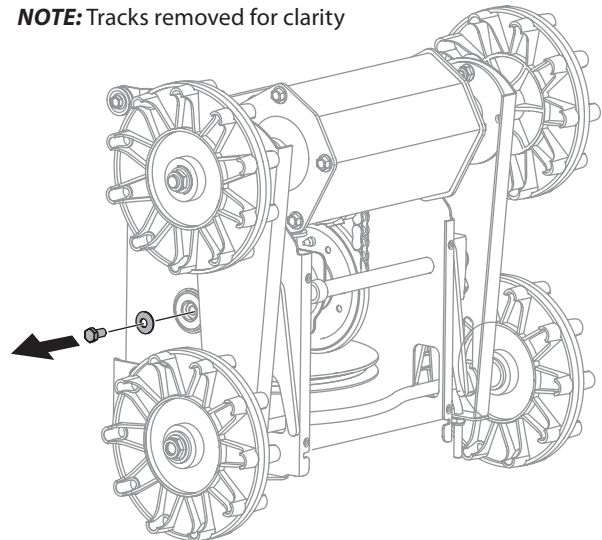
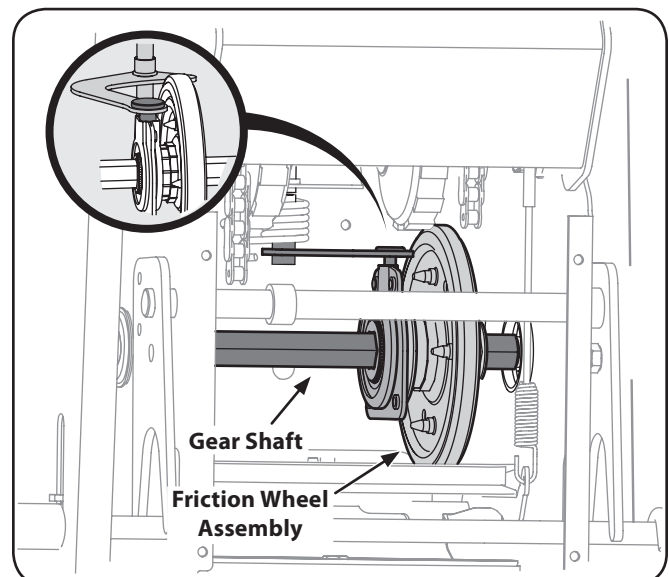

Figure 7-8
Figure 7-9
4. Using a $\frac{3}{4}$ " wrench to hold the gear shaft, remove the hex bolt and bell washer on the left end of the gear shaft. See Figure 7-8 and Figure 7-9.
5. Move the gear shaft to the right and slide the friction wheel assembly from the shaft. See Figure 7-9.
NOTE: Make sure the shift lever pin is in place in the bearing housing. See Figure 7-9 inset.
10. Position the friction wheel assembly up onto the pin of the shift rod assembly, and slide the shaft through the assembly. See Figure 7-9. Reassemble in reverse order.